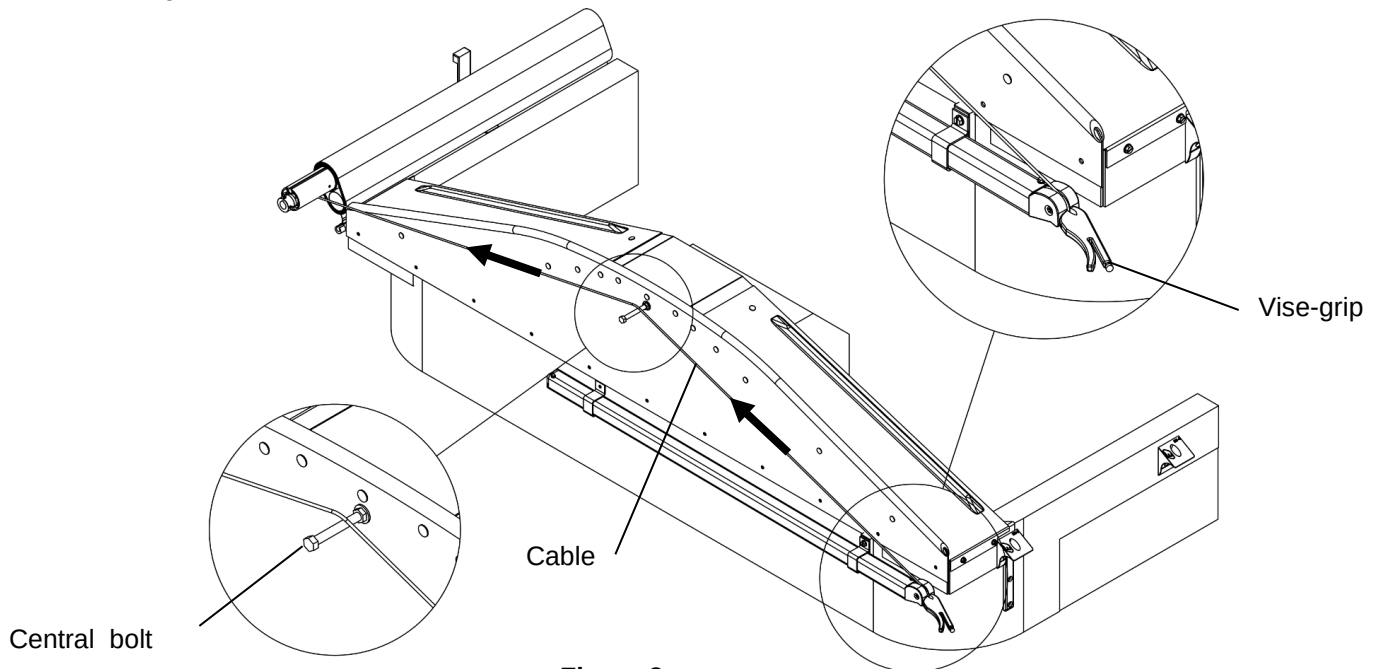

Figure 3
8. **Figure 3.** Pull the cable to its **maximum** and install a “vise-grip” to hold the tension.